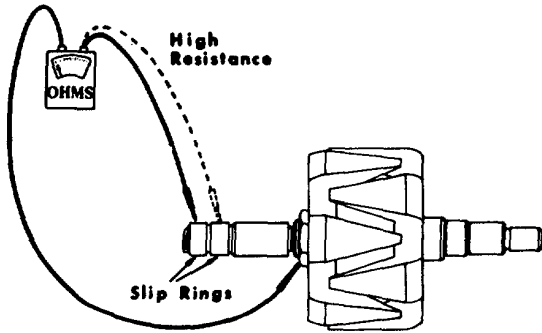

FIG. 18
1. With the ohmmeter connected between the rotor shaft or nut and either slip ring, no reading (infinity) should be obtained. If an ohmmeter reading other than infinity is obtained, the rotor coil is grounded and the rotor must be repaired. (See Figure 18.)